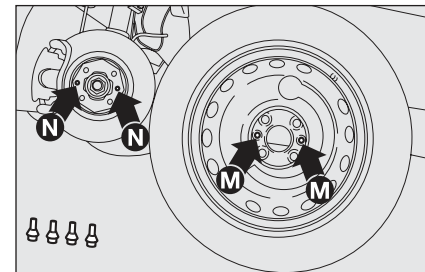

fig. 13
- Install the spare wheel matching the holes **M-fig. 13** with the corresponding pins **N-fig. 13**;